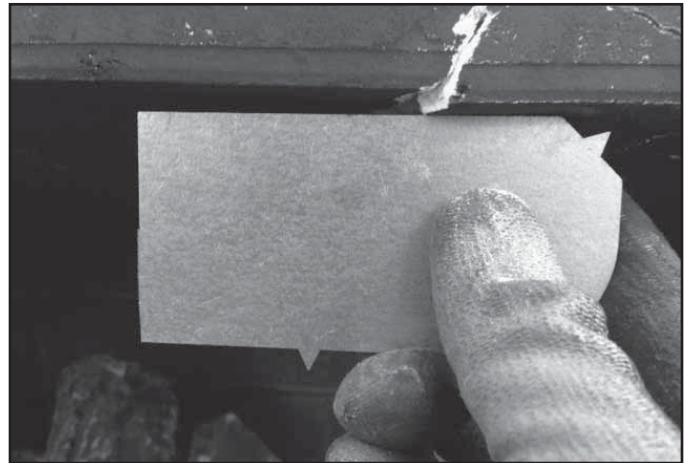

Figure 3.1 Surface plane of firebox is comprised and should be replaced.
- Cracks compromising the surface plane of the firebox. See Figure 3.1.